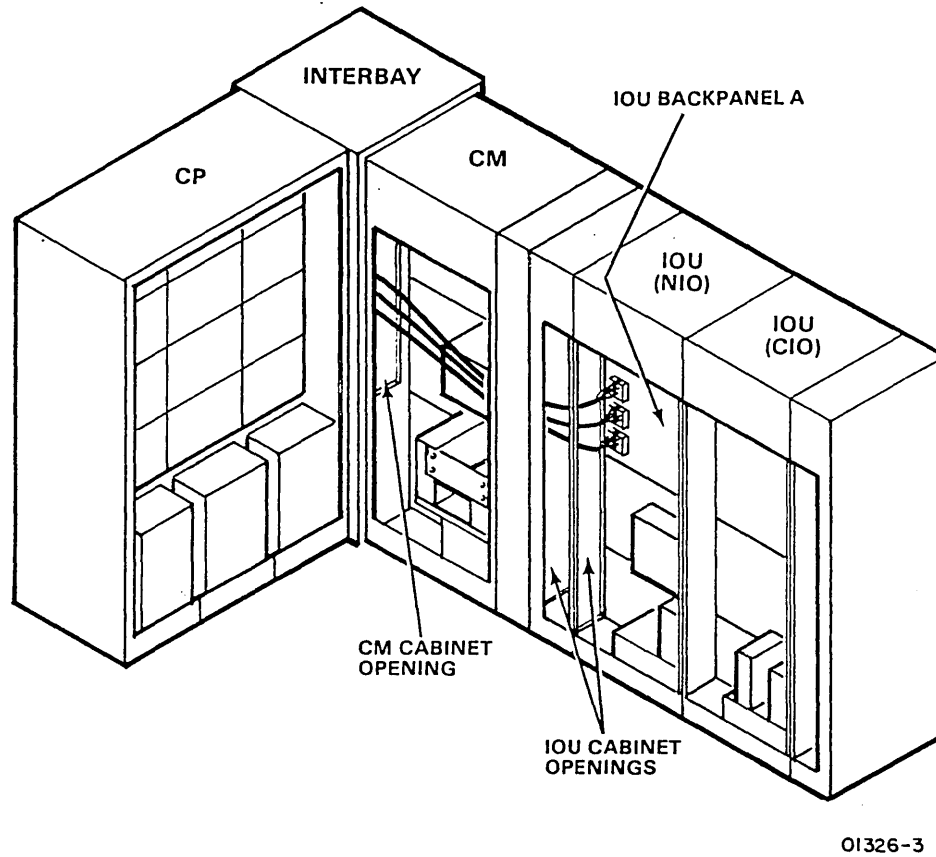

Figure 4-6. CP-0 Cables to IOU Backpanel A Cable Connections
- ___ 8. Route cable through CM to IOU backpanel A. Route only enough cable to reach backpanel (figure 4-6).